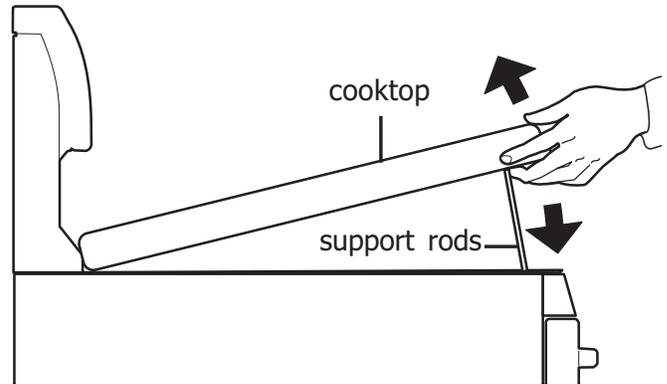

Figure 16: Lifting cooktop
1. Grasp the sides and lift from the front (See Figure 16). Lift-up rods will support the top in a raised position. Only lift the cook top far enough to allow the support rods to snap into place.